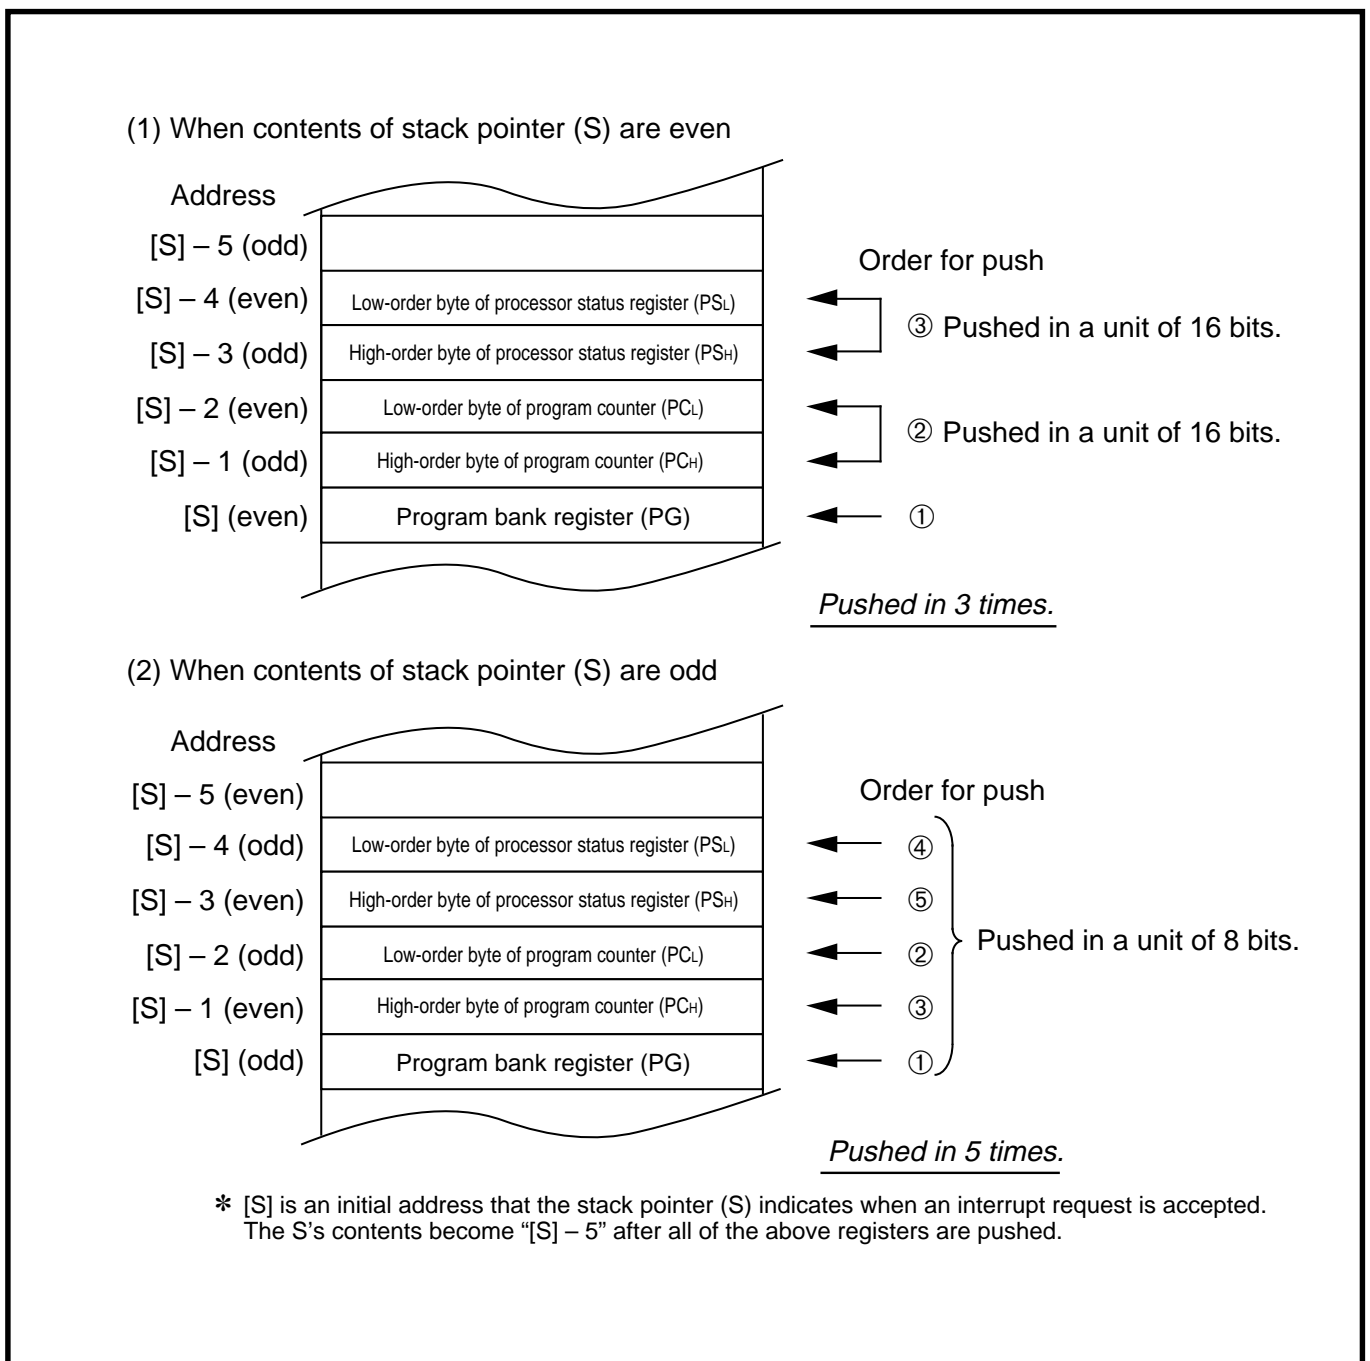

Fig. 7.7.3 Push operation for registers
When the contents of the stack pointer (S) are even, the contents of the program counter (PC) and the processor status register (PS) are simultaneously pushed in a unit of 16 bits. When the contents of the stack pointer (S) are odd, each of these registers is pushed in a unit of 8 bits. Figure 7.7.3 shows the push operation for registers.